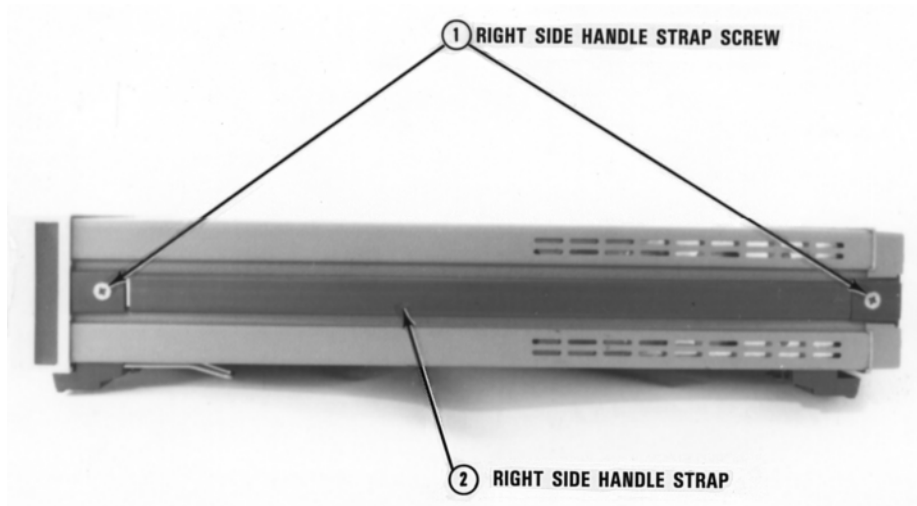

Figure C-1 3458A right side
- 3** Refer to Figure C-1. Turn the instrument so its right side faces you (as seen from the front).
- 9 Refer to Figure C-1. Turn the instrument so its right side faces you.